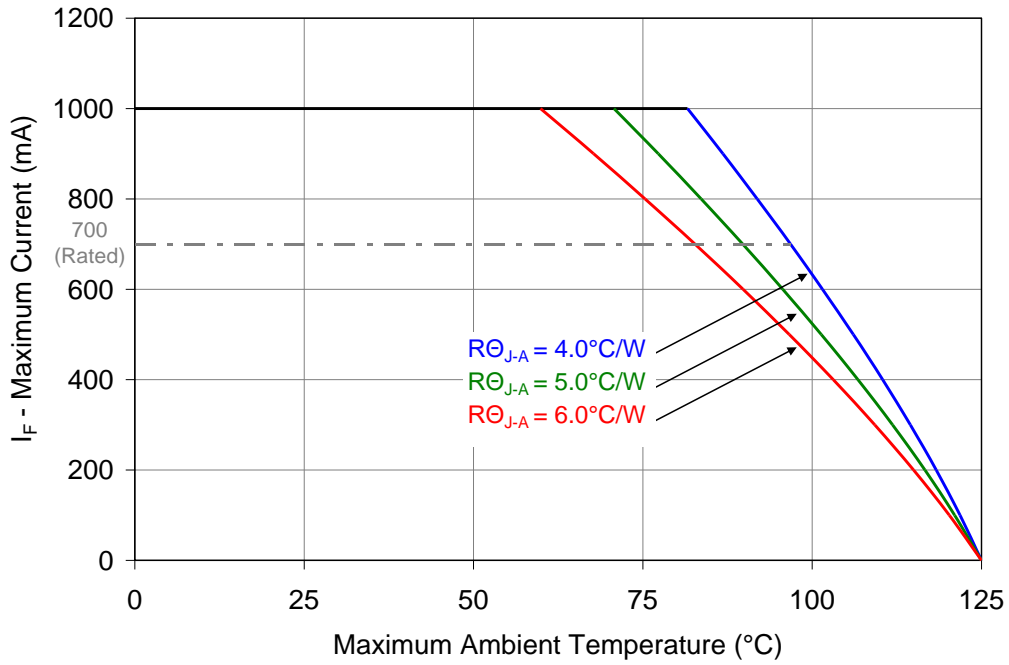

Figure 10: Maximum forward current vs. ambient temperature based on $T_{J(\text{MAX})} = 125^\circ\text{C}$
- Maximum DC forward current (per die) is determined by the overall thermal resistance and ambient temperature. Follow the curves in Figure 10 for current derating.
Notes for Figure 10: